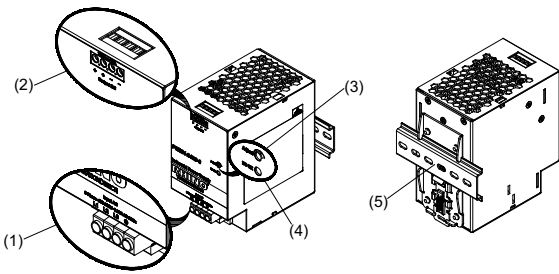
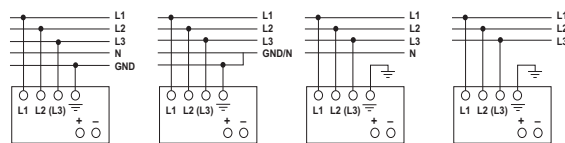

Figure 1
Figure 5
## 2. Device description (Fig. 1)
### 5.1. Input connection (Fig. 1, Fig. 5)
Use L1, L2, L3 with GND connections of input terminal connector (See Fig. 5) to establish 3 x 400-500VAC connection. Fig. 5 shows the connection to the various network types.
### 5.2. Output Connection (Fig. 1 (2))
Use the "+" and "-" screw connections to establish the 24 VDC connection. The output provides 24 VDC. The output voltage can be adjusted from 24 to 28 VDC on the potentiometer. The green LED DC OK displays correct function of the output (Fig. 1 (4)). The device has a short circuit and overload protection and an overvoltage protection limited to 35 VDC.